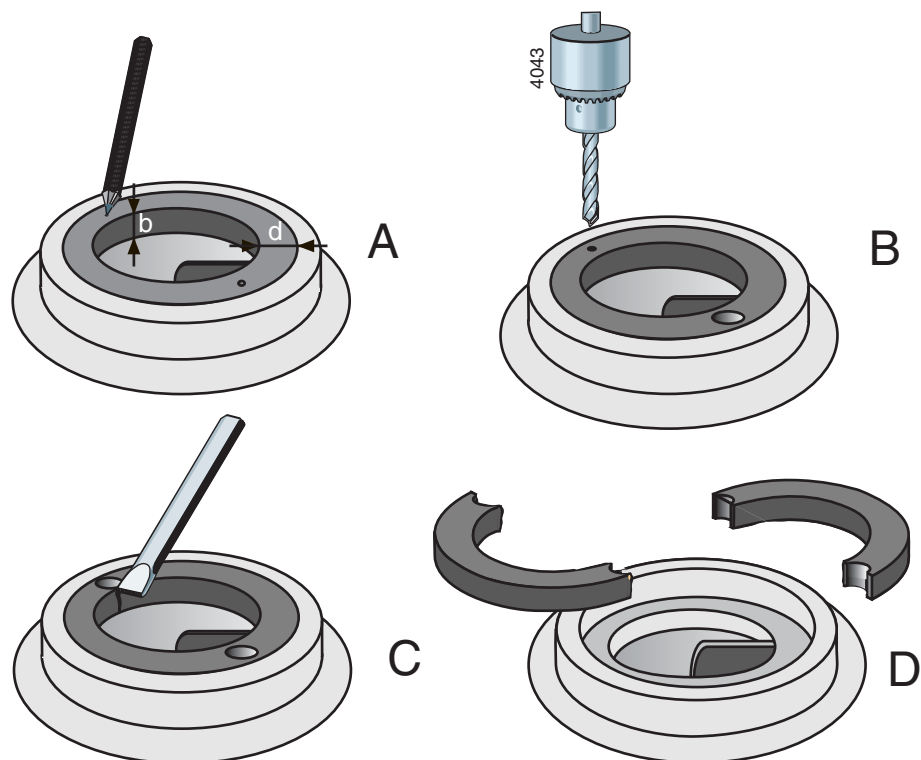

Figure 14: Removal of wear ring.
- 1 Measure the thickness (d) and the width (b) of the ring, see figure 14 A.
- 2 Make a centre hole in the middle of the edge of the ring at two opposite points, see figure 14 B.
- 3 Use a drill with a diameter just a little bit smaller than the thickness (d) of the ring and drill two holes in the ring, see figure 14 C. Don't drill deeper than the width (b) of the ring. Take care not to damage the fitting edge of the pump casing.
- 4 Use a chisel to cut the remaining part of the ring thickness. Now you can remove the ring in two parts from the pump casing, see figure 14 D.